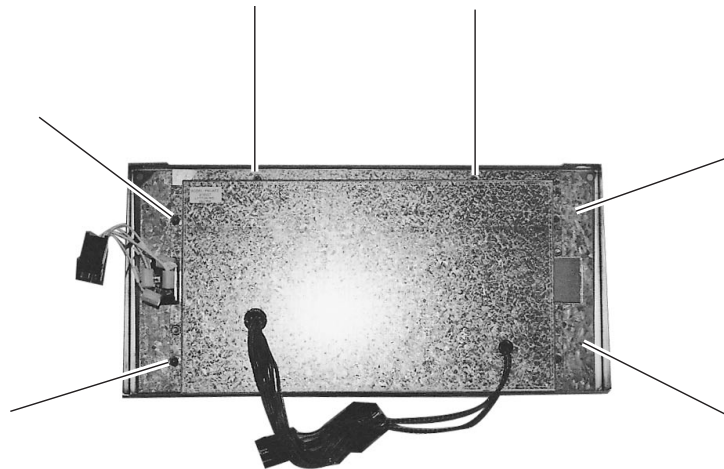

Fig. 6
2. To remove the computer disengage (6) 6-32 nuts from the back of the control panel. (Fig. 6)